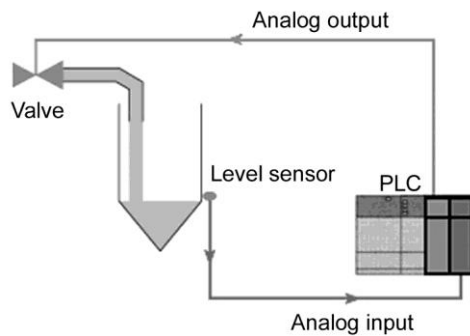

Figure 2-10 Analog I/O system for question 34.
34. For the PLC analog I/O control system shown in Figure 2-10, the fluid flow is controlled by 34.____